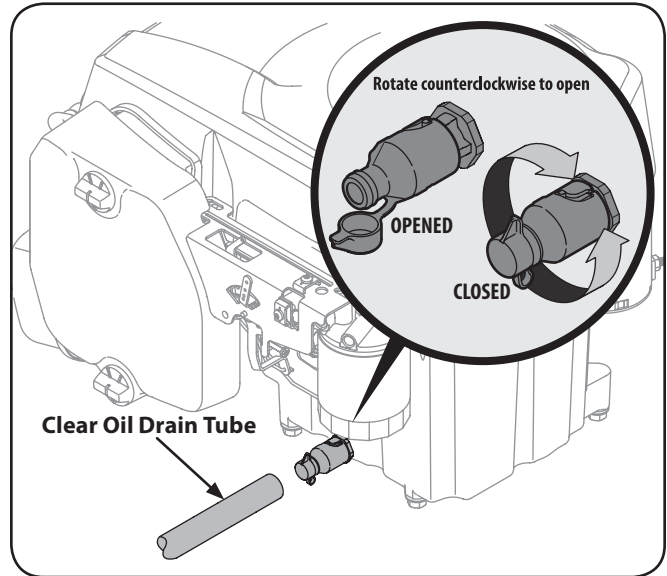
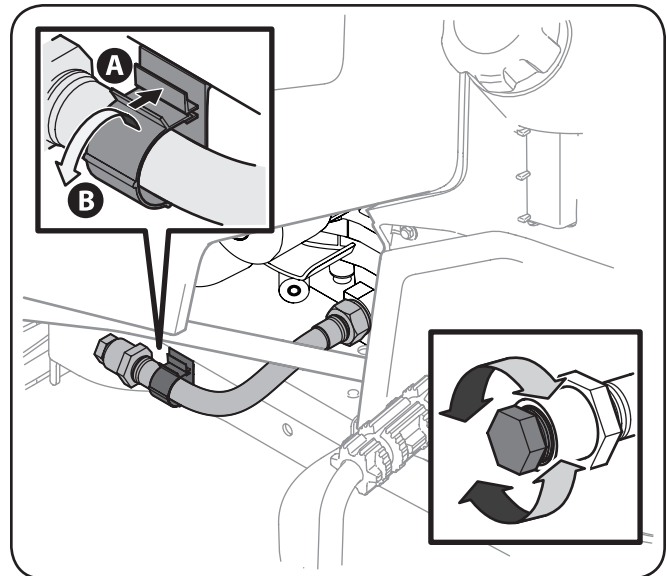

Figure 6-1
Figure 6-2
4. Your engine is equipped with either a twist-and-pull oil drain (see Figure 6-1 and go to Step 5.) or a removable oil drain hose plug (see Figure 6-2 and go to Step 6.) Follow the applicable instructions for your tractor.
5. Twist-and-pull oil drain (refer to Figure 6-1):
6. Removable oil drain hose plug (See Figure 6-2):
- a. Remove the oil drain hose from the clip on the left side of the frame. See Figure 6-2.
- b. Remove the oil drain hose plug from the end of the hose. See Figure 6-2. Drain the engine oil into the collection container.